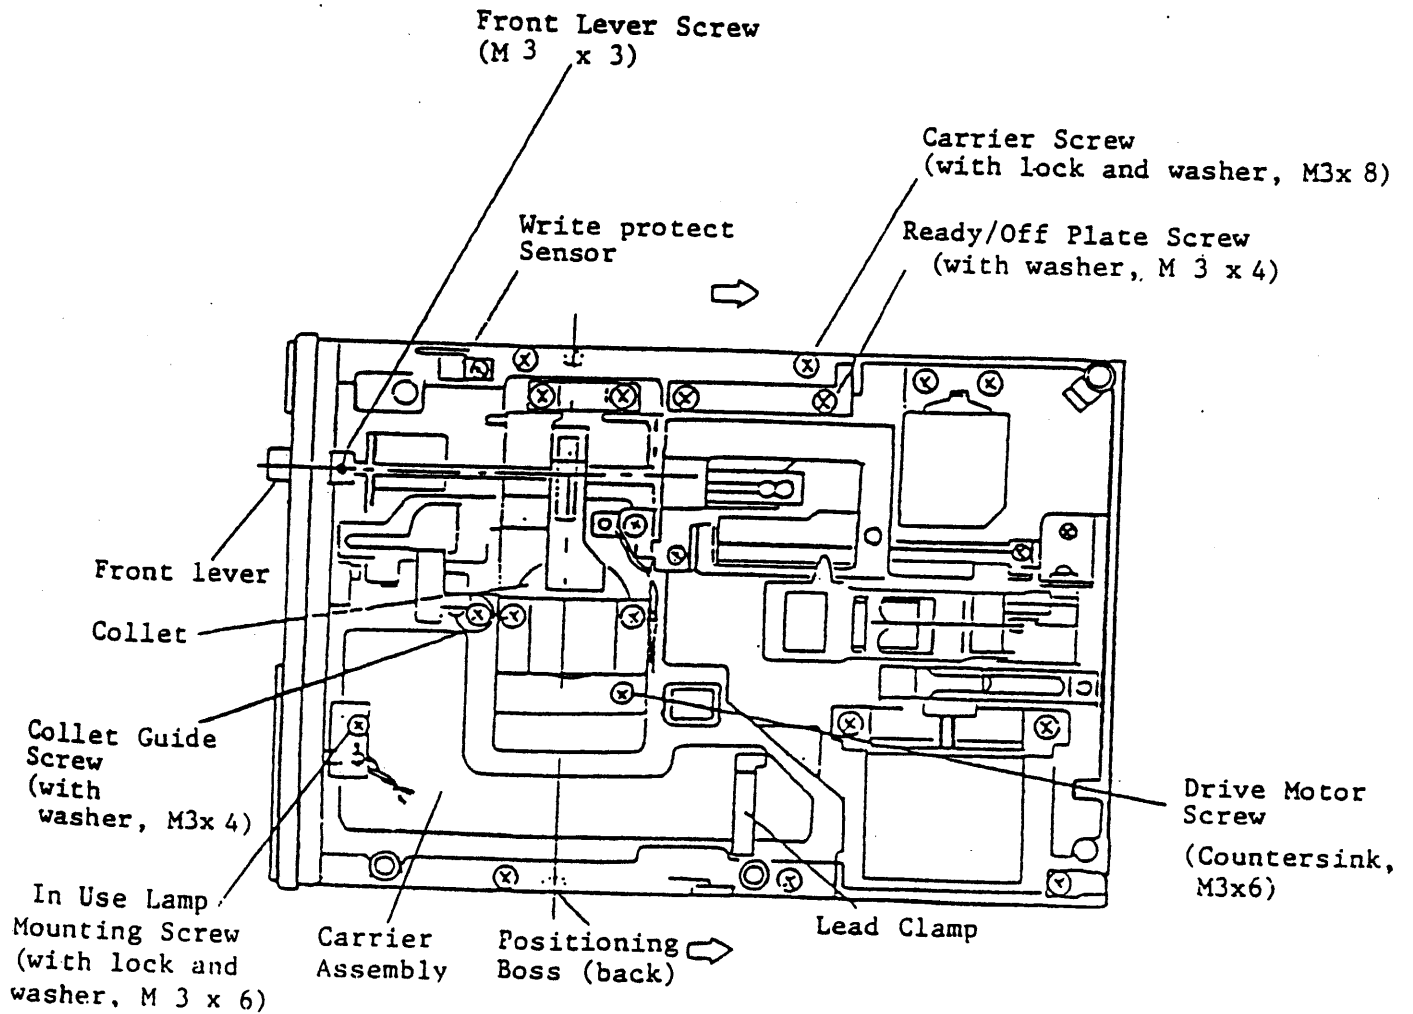

Figure 4.7.1
5. Remove the carrier assembly screws and remove the carrier assembly by pushing towards the rear of the drive. (See page 18, figure 4.7.1)